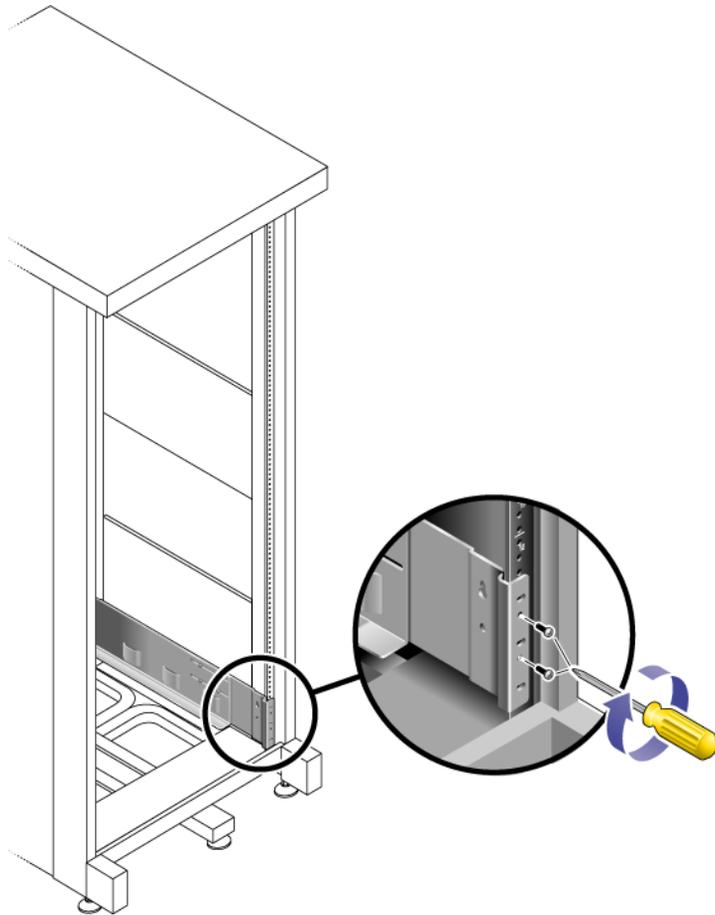

FIGURE 2-6 Securing the Left Rail to the Back of the Cabinet
6. Use the No. 3 Phillips screwdriver to insert and tighten four metric M6 screws (two per side) at the back of the rail (FIGURE 2-6).